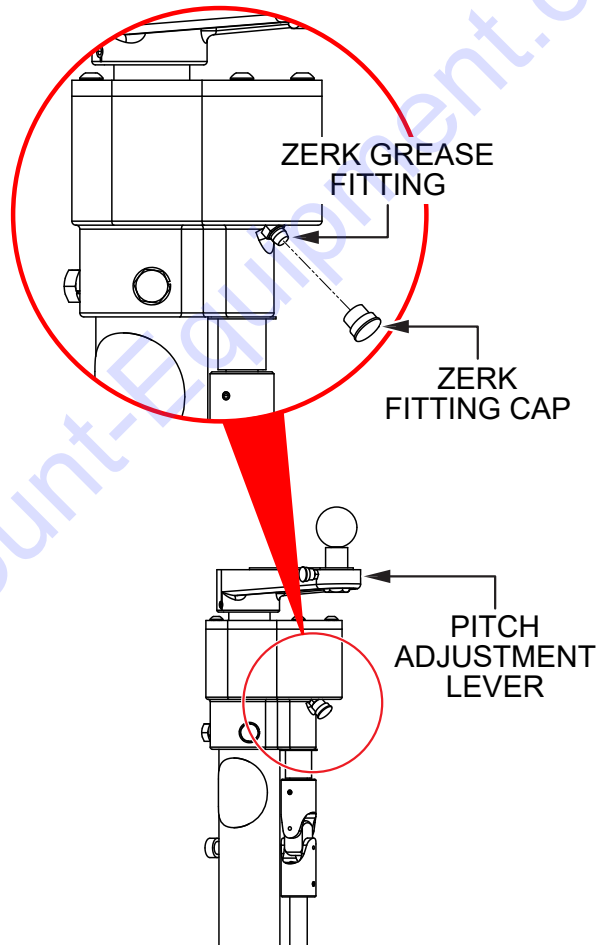

Figure 45. Pitch Tower Lubrication
1. Locate the Zerk grease fitting just below the pitch adjustment lever on either pitch tower (Figure 45). Remove the Zerk grease fitting cap and set it aside.